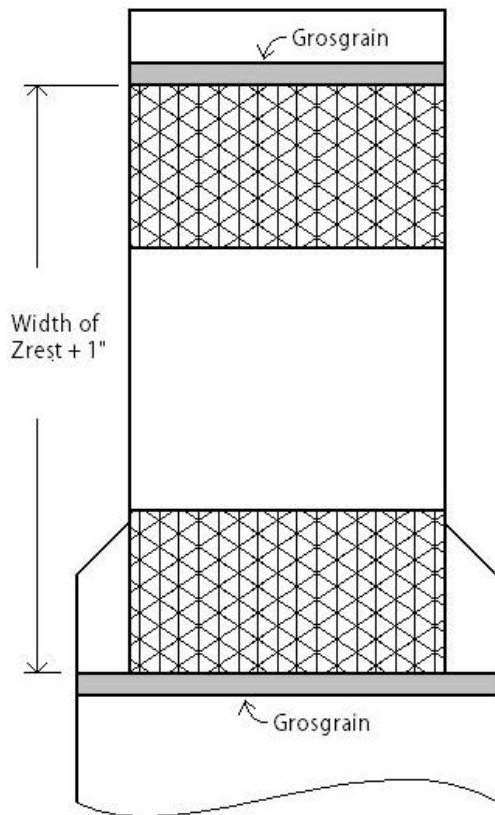

Figure 11. Placement of pad holders.
- 4.3.3** Sew lower pad holder onto back panel in location shown on *Figure 11*. The spacing between pad holders will depend on the width of the Z-Rest pad. The pad is 20" wide when you buy it. I trim mine down to 15". If you are planning on carrying more than 8 sections, it will be thicker when folded up, and you may want to add an extra inch or two between the holders. Pin the mesh so it doesn't bunch up all at one end.